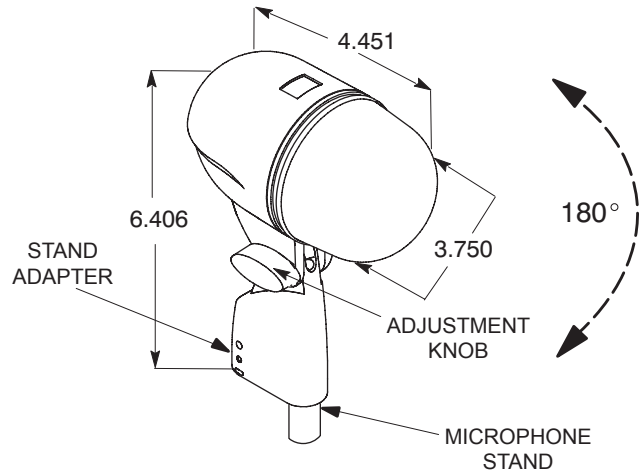

FIGURE 3
1. Screw the integral stand adapter onto the end of a microphone stand (see Figure 3). Adjust the stand height and position as necessary.